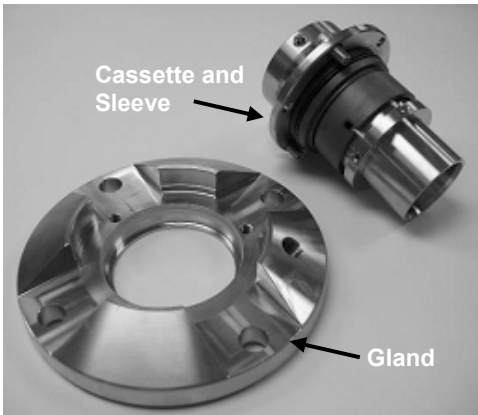

Figure 33: Cartridge Seal Gland and Service Kit (Cassett and Sleeve)
5. If only the cartridge seal's cassette is to be replaced, loosen the screws from the cassette/sleeve assembly and fit them to the threaded holes in the same part. Tighten evenly allowing the cassette to be pulled out from the gland and remove it from the shaft. (See Figure 33.)